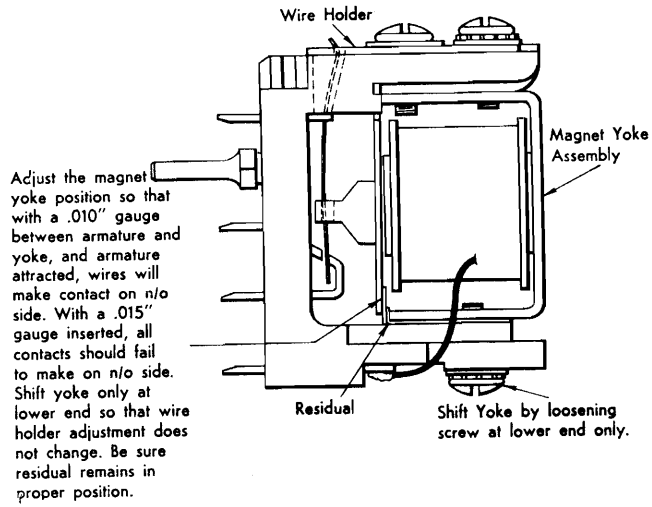

Figure 19
5. Figure 19. Adjust the magnet yoke assembly so that with a .010" thickness gauge between the armature and yoke at the free end of the armature, and the armature attracted, all contact wires make contact on the normally open side. With a .015" gauge between armature and yoke and the armature attracted, none of the wires are to make contact on the normally open side. This adjustment is obtained by shifting the yoke assembly at the lower end only so that the wire holder adjustment does not change. If it is necessary to loosen the entire yoke to correct an out-of-parallel condition, the wire holder will have to be re-positioned for proper wire tension. Be sure the residual remains in the proper position.